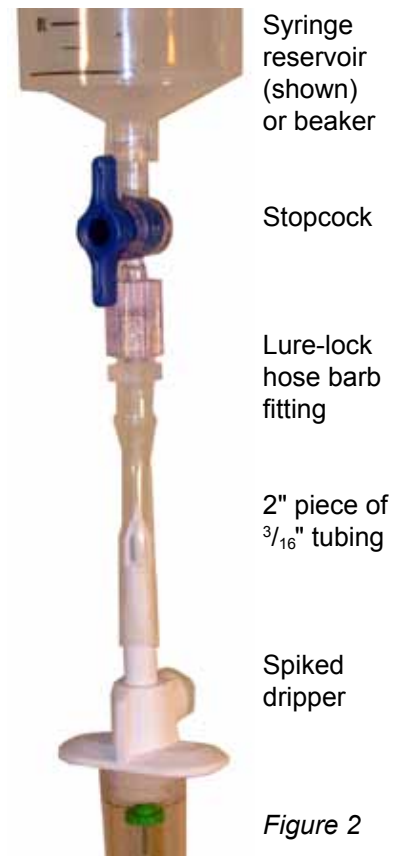
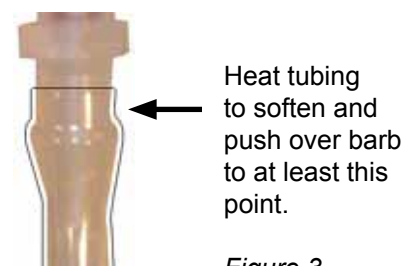

Figure 2
Figure 3
7. Each 2" piece of $\frac{3}{16}$ " Tygon tubing tube attaches to the hose barb fitting at the bottom of each reservoir and the spike at the top of each Dripper (see Figure 2). In order to facilitate this process, fill a coffee cup with hot water. By holding the last 1" of tubing in the hot water, you can soften the tubing and easily push it onto the hose barb (see Figure 3).
8. The next step is measuring and cutting the Dripper Tubes. At this point both Drippers should be attached to the reservoirs above them. Measure the length from the left Dripper (attached to the saline reservoir) down to the top of the 3-way valve. After adding an extra inch or two to the length of the tubing (to avoid tubing tension) cut the tubing with a razor or scissors and attach to the hose barb at the top of the 3-way valve. Ensure a secure fit by pushing the warmed tubing over the hose barb entirely (see Figure 3). Do the same with the right Dripper Tubing, allowing enough slack to attach to the right side hose barb on the 3-way valve (you can always cut it shorter). When the tubing cools and shrinks it should be difficult to pull off the hose barb.